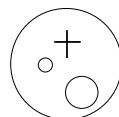

Figure 1: Latex-free plug with markings (view from above)
2. Close the roller clamp on the transfusion set and insert the needle into the bottle plug at the point marked with the large circle (see Figure 1).
4. Insert the transfer filter set into the bottle plug with the roller clamp closed at the cross marking (see Figure 1), open the roller clamp until small bubbles bubble through the blood. The vacuum in the infusion bottle draws in the ozone/oxygen mixture from the syringe and distributes it evenly in tiny bubbles. The roller clamps on the transfer filter set and, on the transfusion, set remain slightly open.